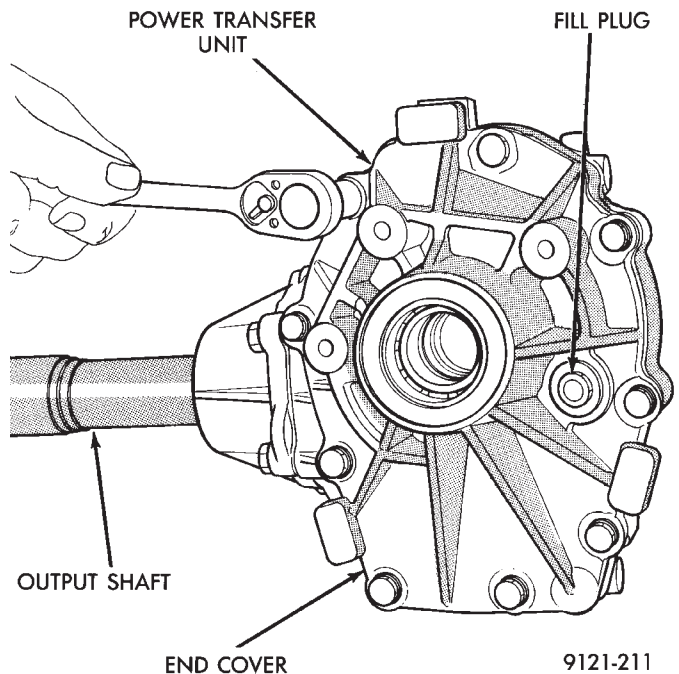

Fig. 1 End Cover Bolts
- (1) Remove power transfer unit from the vehicle.
- (2) Remove end cover bolts (Fig. 1).